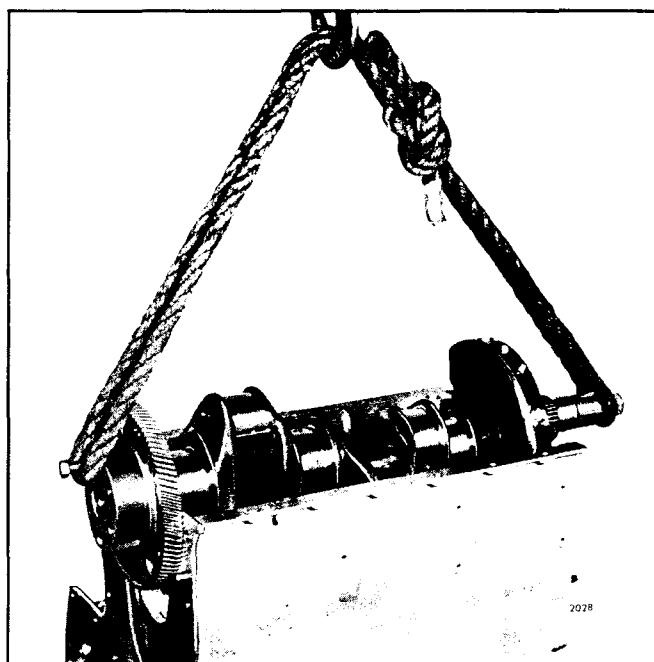

Fig. 3 - Lifting or Lowering Crankshaft from/into Cylinder Block
19. Remove the crankshaft, including the timing gear (Fig. 3).